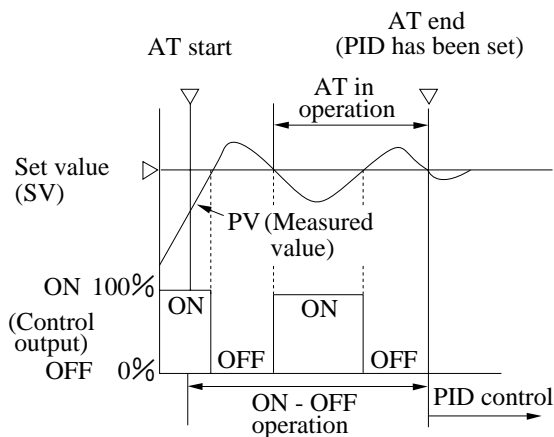

Fig. 2-1
- (i) During auto-tuning, PV and the output vary as shown in Figs. 2-1 and 2-2.
(7) With the PYZ left for 30 seconds after key operation, the parameter indication is reset to SV indication automatically. (In case of PYZ4, the parameter is reset to PV indication.)